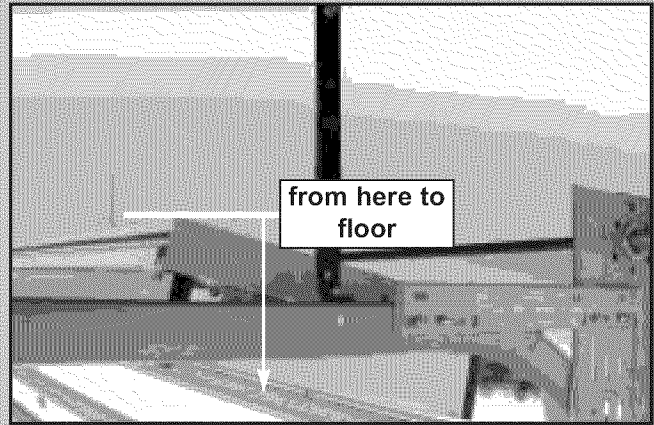

FIG. 2-1 Finding highest point of travel (sectional).
- b. Continue this line on wall above door for about 12" (**Fig. 2-1**).